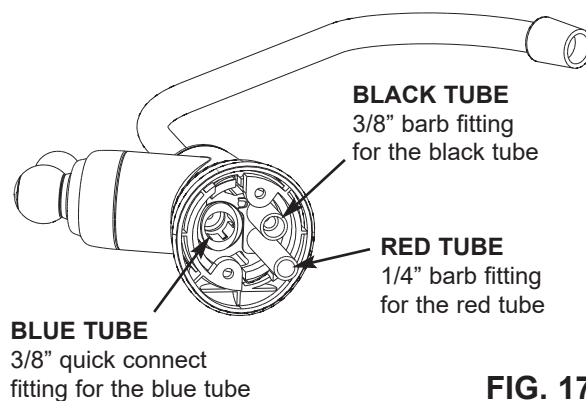

FIG. 17
- C. Insert all the way onto the 1/4" faucet barb fitting on faucet. See Figs. 17, 20 & 21.